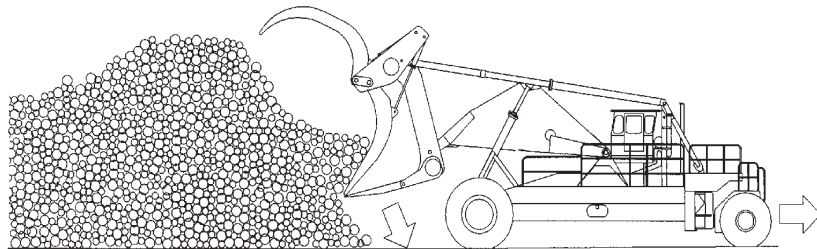

Figure 5-17
- Continue backing and lowering until all the logs are out of the carriage (See Figure 5-17).